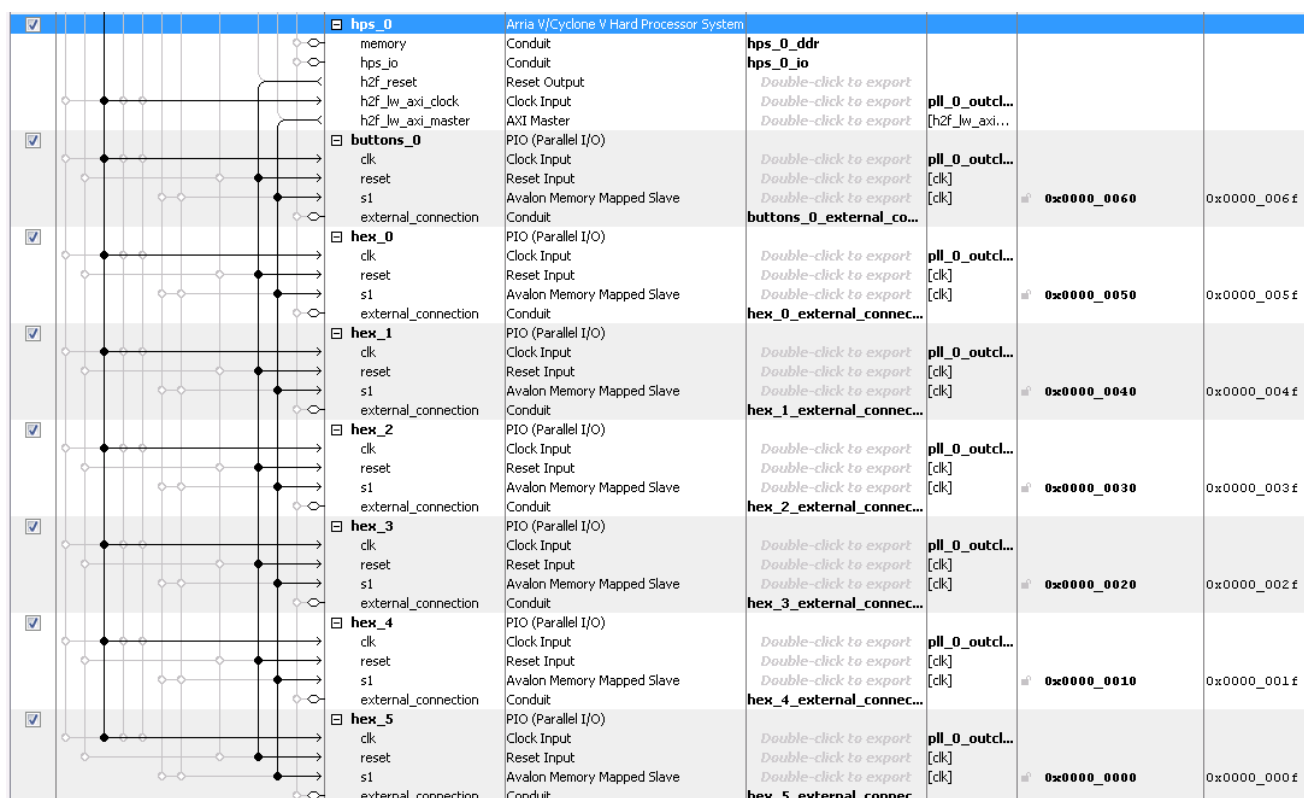

Figure 8-11. Adding Buttons and 7-segment Displays to the Lightweight HPS-to-FPGA Bridge
26. Connect the system as shown in Figure 8-11 below. Notice that we use "hps_0.h2f_reset" as the reset signal for the components connected to the HPS. This is a design choice so we can separately reset FPGA-only peripherals, and FPGA peripherals connected to the HPS.